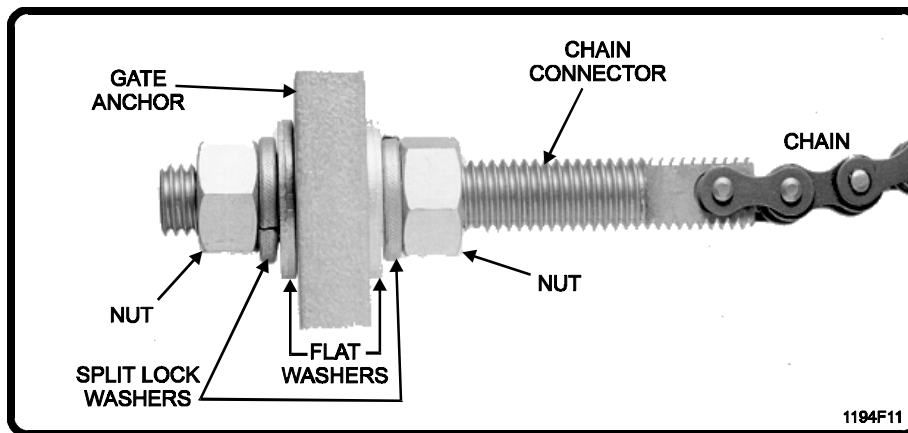

Figure 10. Installing Chain on Gate Anchor.
7. Install the chain to the gate using supplied hardware. Adjust nuts for proper chain tension to prevent the chains from loosening and twisting (Figure 10).